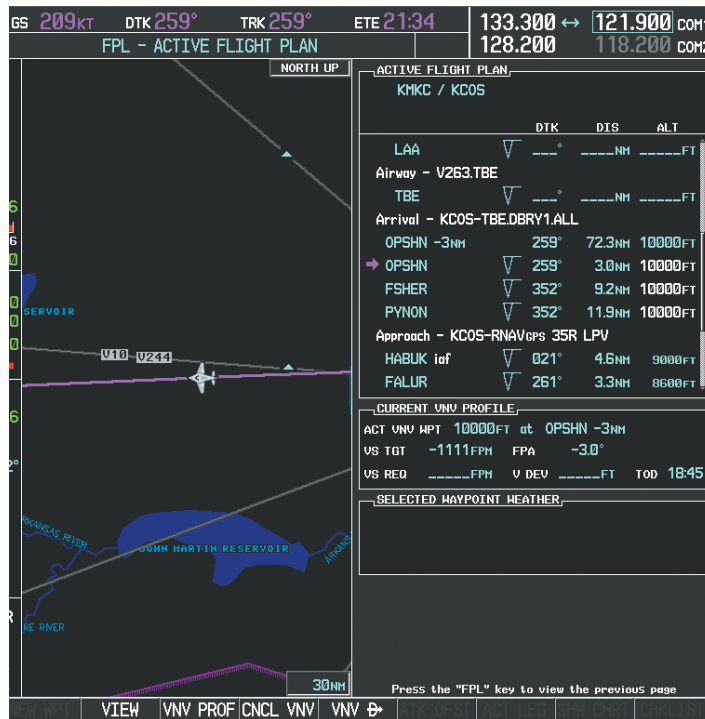

Figure 5-136 Loaded Approach
i) With 'LOAD?' highlighted, again press the **ENT** Key. The selected approach is added to the flight plan as seen in Figure 5-136.